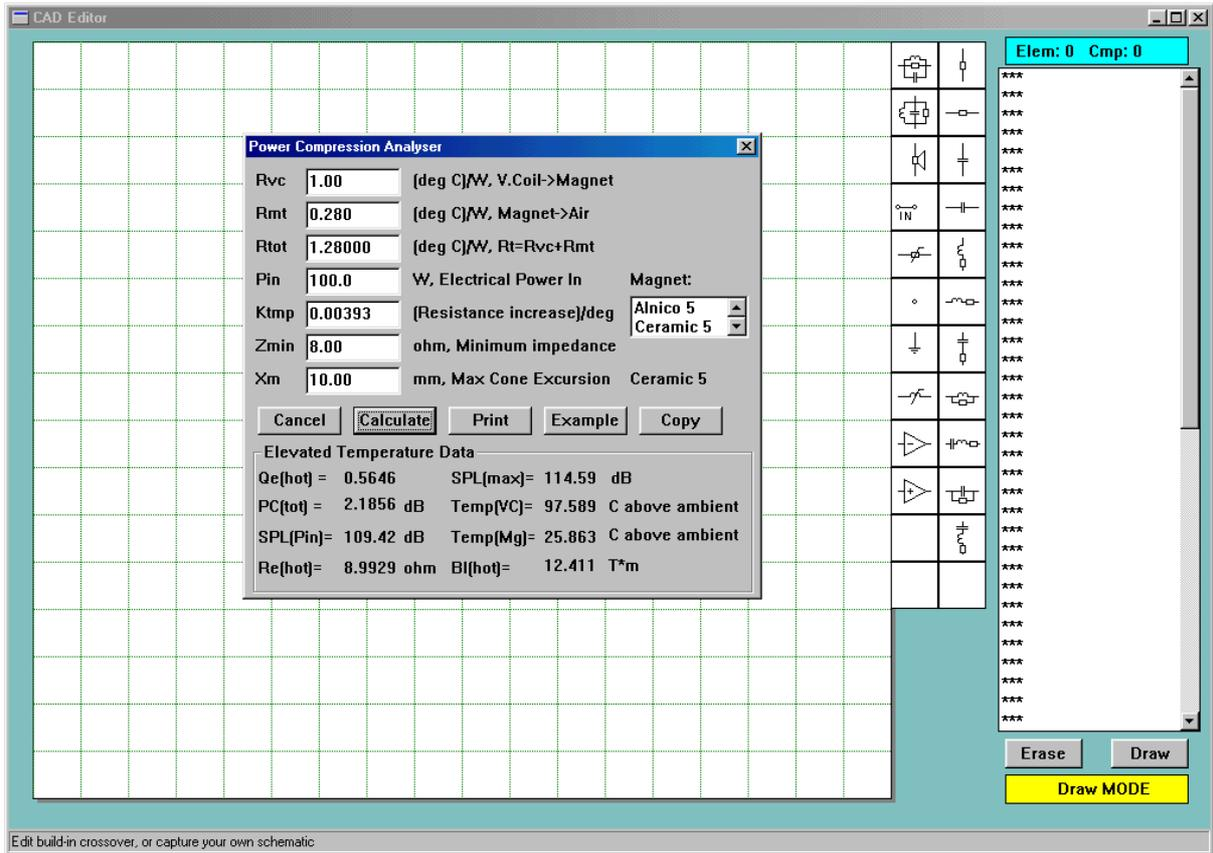

Fig 2.7 Power Compression Analyser
3. Power Compression Analyser (Fig2.7).